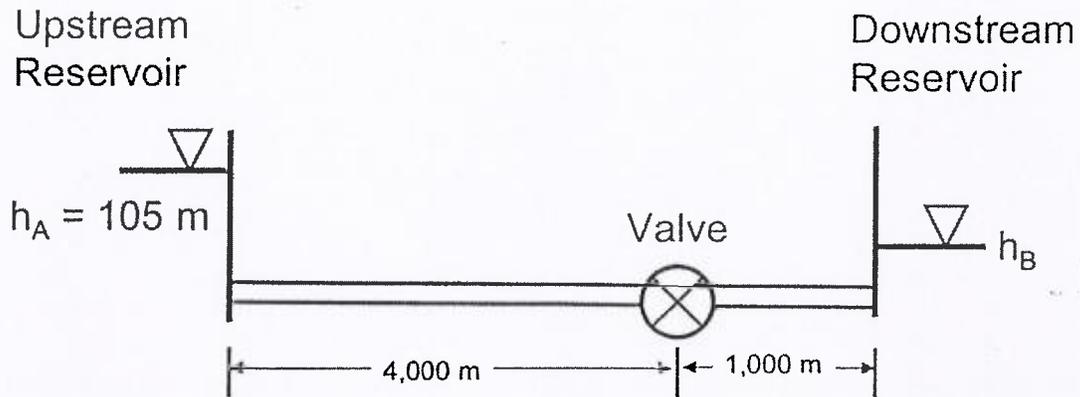

Figure 2. Schematic of water transmission system.
- /20 2. A transmission pipeline that conveys water from an upstream reservoir to a downstream reservoir is indicated below in Figure 2. The transmission main has a valve along its length that controls the discharge in the system. The discharge through the valve is computed with the valve equation below. The pipeline has a length of 5,000 m, a Hazen-Williams 'C' factor of 120, and an inner diameter of 450 mm. The upstream reservoir has a water level of 95 m. The valve discharge constant is  $E_s = 0.45 \text{ m}^{5/2}/\text{s}$ .